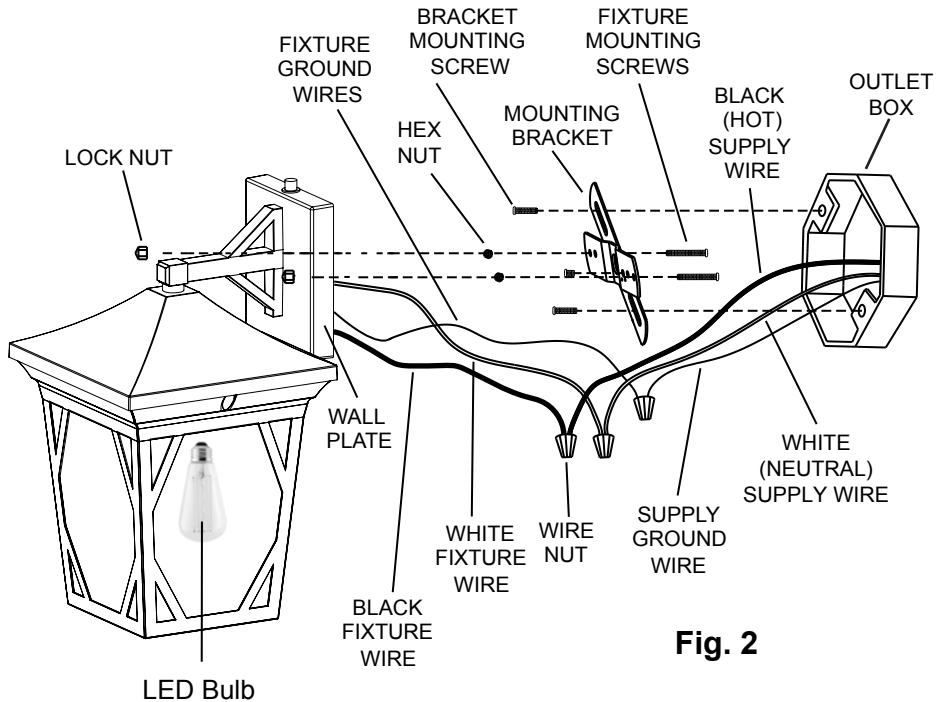

Fig. 2
2. Thread the **FIXTURE MOUNTING SCREWS** into the provided holes of the **MOUNTING BRACKET**, as shown. Thread the **HEX NUTS** onto the **FIXTURE MOUNTING SCREWS**, as shown. (Fig. 2) Do not tighten the **HEX NUTS** at this time.
3. Pull the power supply wires out from the **OUTLET BOX**, and attach the **MOUNTING BRACKET** to the **OUTLET BOX**, using the **BRACKET MOUNTING SCREWS**. (Fig. 2)
4. Strip approximately 6 mm (1/4 in.) of insulation from each supply wire from the **OUTLET BOX**. Raise the **MAIN FIXTURE BODY** to the wall, bringing the **WALL PLATE** close to the **OUTLET BOX**. Make the following wire connections using the **WIRE NUTS** (Fig. 2):
7. Adjust the **FIXTURE MOUNTING SCREWS** until they protrude out from the **WALL PLATE** 6 mm (1/4 in.). Remove the **WALL PLATE** and secure the position of the **FIXTURE MOUNTING SCREWS** by tightening the **HEX NUTS** against the **MOUNTING BRACKET**. (Fig. 2)
8. Carefully tuck all **WIRES** and **WIRE NUTS** into the **OUTLET BOX**. Place the **WALL PLATE** back onto the **FIXTURE MOUNTING SCREWS**, and secure it into place using the **LOCK NUTS**. (Fig. 2)